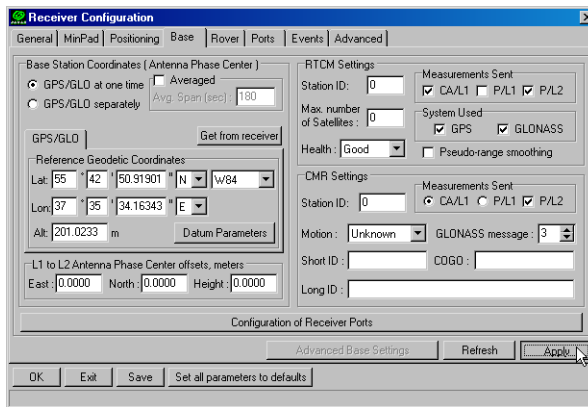

Figure 3-11. Base Tab Configuration
- Select the **Base** tab and set the following parameters (Figure 3-11 on page 3-14):